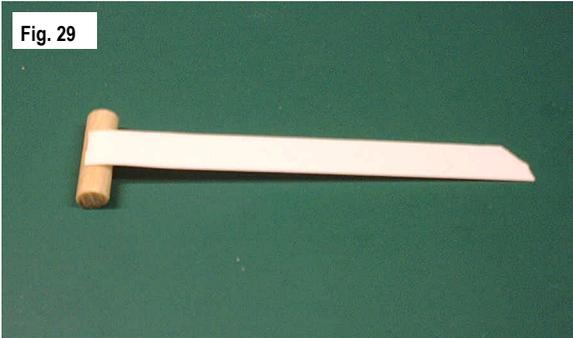

Fig. 29
29. Cut a 1/4" x 2" strip from the styrene carrier sheet. Tack glue one end of styrene strip to one of the ejector stabilizers as shown in Fig. 29.